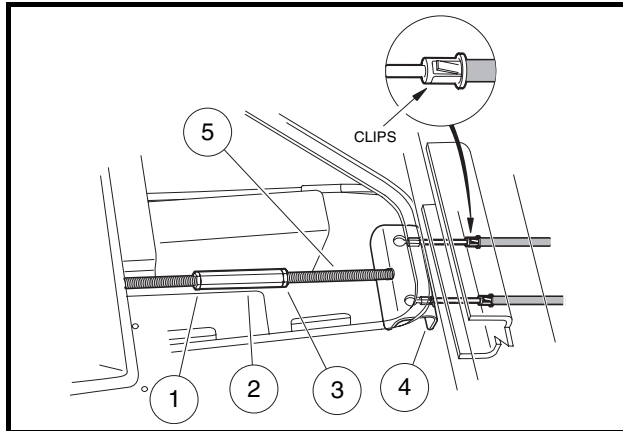
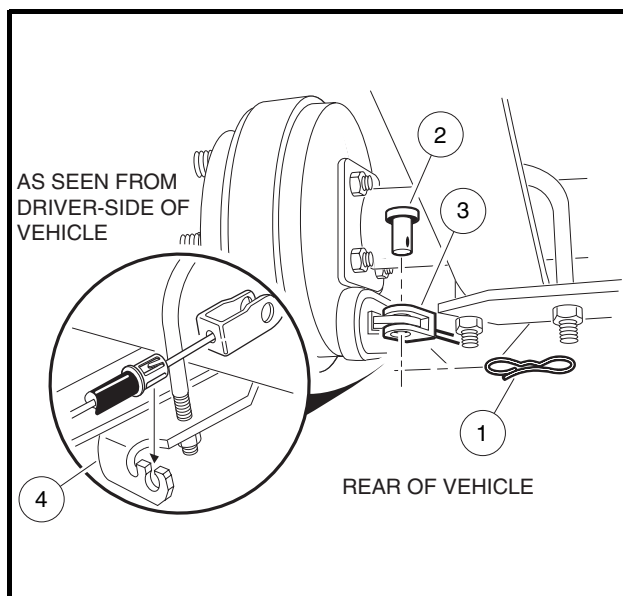
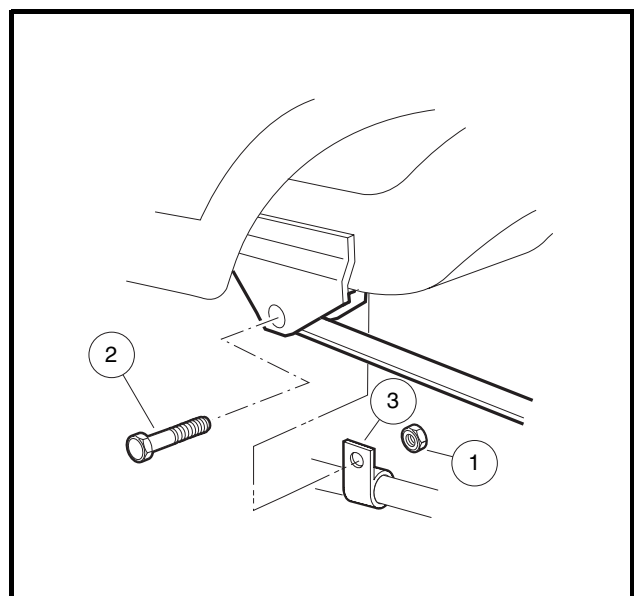

Figure 6-19 Loosen Brake Cables
Figure 6-20 Disconnect Cables at Rear Brakes
Figure 6-21 Brake Cable Mounting Tab
4. Loosen the two jam nuts (1 and 3) on either side of turnbuckle (2) (**Figure 6-19, Page 6-11**). Note that the forward jam nut (1) is a left-hand thread. Thread each nut approximately 1/2 inch (12.7 mm) away from the turnbuckle.
5. Loosen turnbuckle (2) until the bolt (5) is free of the turnbuckle.
6. Rotate the bolt (5) and equalizer bracket (4) to the upright position then slip the cable heads out of the bracket.
7. Remove nut (1) from the bolt (2) that secures front of the leaf spring (**Figure 6-21, Page 6-11**). Do not remove bolt (2).
8. Remove the mounting tab (3) of the brake cable from the bolt.
10. Remove bow tie locking pin (1) and the clevis pin (2) from the brake lever on each wheel and pull the clevis (3) away from the lever (**Figure 6-20, Page 6-11**).
11. Using brake cable release tool (CCI P/N 102555501), compress the retaining clips on the end of the cable housing enough to slip the cable end out of the bracket (3) and remove the brake cable from the vehicle.
1. Insert the end of the new brake cable through the hole in the frame (**Figure 6-19, Page 6-11**). Push on the cable housing so the clips on the housing ends secure the housing in the hole.
2. Hold the bolt (5) and the equalizer bracket (4) in the upright position and slip the cable head through the hole on top of the bracket. Pivot the equalizer to the horizontal position to capture the cable heads in the equalizer.
3. Insert the rear cable housing into the shock mount bracket (4) (**Figure 6-20, Page 6-11**). Push the cable housing end into the bracket to ensure the clips on the housing end secure the cable in position.
4. At the rear wheel brake, connect the cable to the brake actuator arm using new clevis pin (2) and new bow tie locking pin (1) (**Figure 6-20, Page 6-11**).
5. Place tab (3) on cable housing over the forward leaf spring mounting bolt (2) (**Figure 6-21, Page 6-11**). Install nut (1). Tighten nut to 18.4 ft-lb (25 N·m).